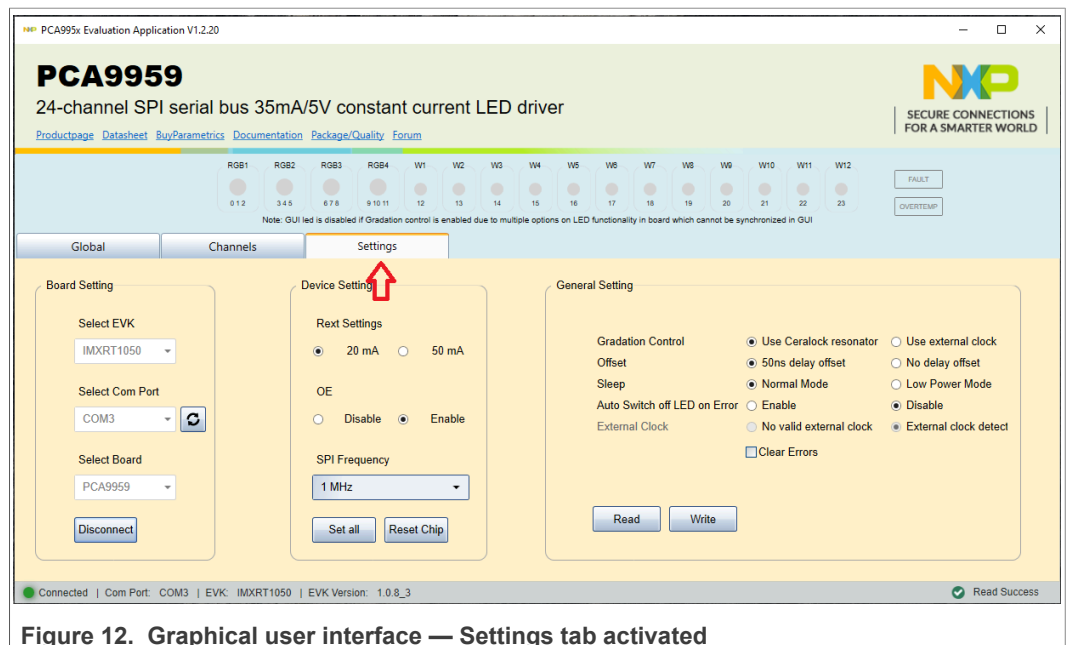

Figure 12. Graphical user interface — Settings tab activated
Once installation is complete, make sure that one of the three supported EVKs with the attached PCA9959HN-ARD daughter board is connected to the PC and powered-on. Open the NXP_GUI(PCA995x) GUI application. An interface appears as shown in Figure 12.
- **Select COM Port** displays the port selected for the communication. The port is automatically selected by the system and is shown here as (**COM3**, Figure 12).
- **Select Board** allows the user to select the correct daughter board (the application can support three different boards). In Figure 12, the selected board is **PCA9959**. Selecting the wrong EVK or daughter board, causes the connection to fail and a pop-up window with the message: “*Unable to Connect with Daughter Card*” appears on the screen.